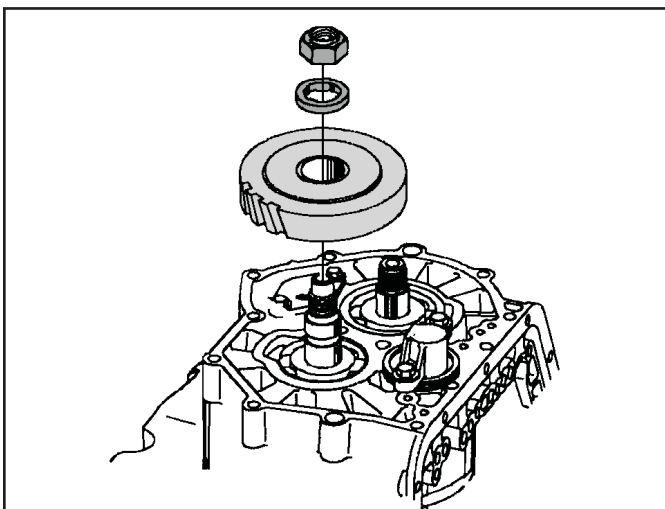

Figure 205
30. Install the 1st driven gear and sprag assembly (See Figure 205).
31. Install the 1st driven gear thrust washer (See Figure 205).
33. Hand start the output shaft nut and run down with a torque wrench (See Figure 205).